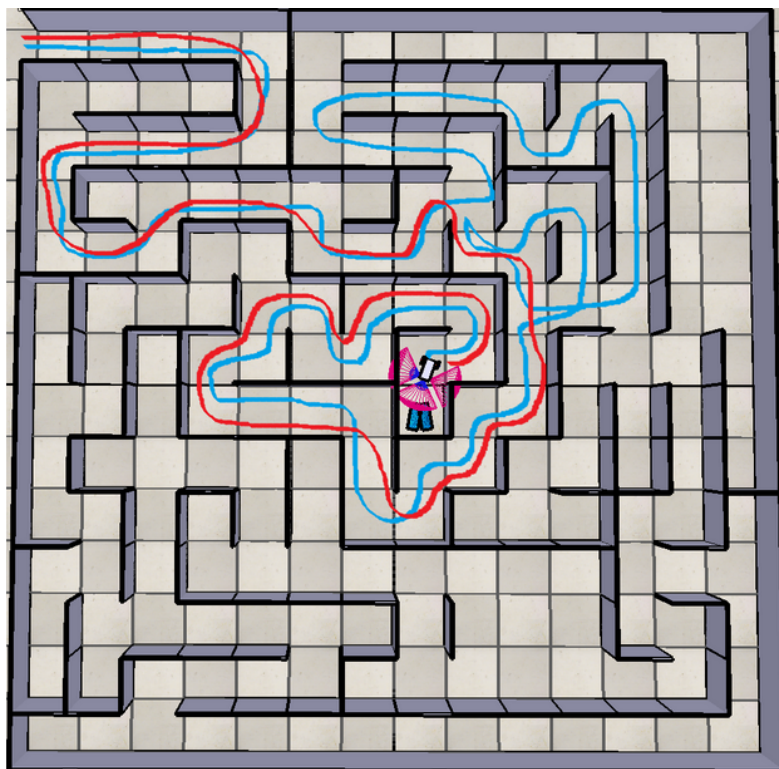

Fig. 3. Path taken by the robot in (Blue) and out (Red) of the maze.
- 7.6. The robot must take the shortest path it knows when exiting the maze (seen in Fig. 3).